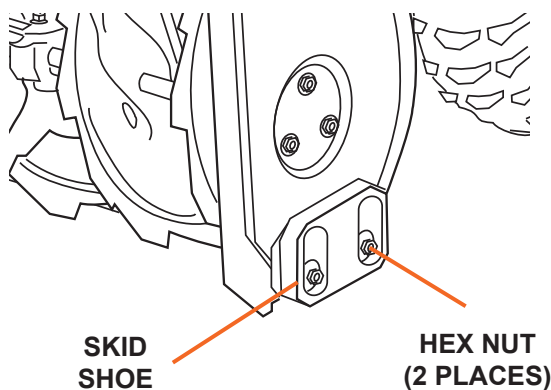

Figure 5
1. Position the skid shoes based on surface conditions. Adjust upward for hard-packed snow. Adjust downward when operating on gravel or crushed rock surfaces. Loosen the two hex nuts that retain the skid shoe in place and move up or down as desired, then re-tighten the lock nuts (see Figure 5). Repeat for the opposite side of the snow blower.